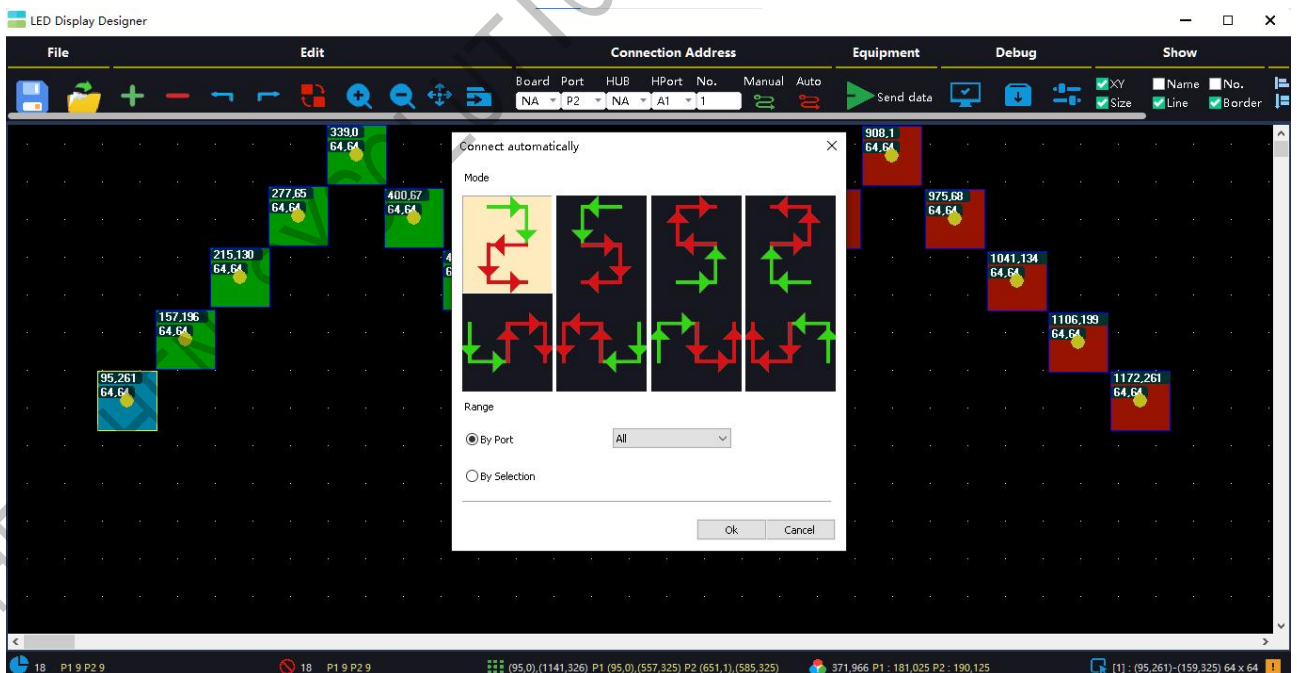

Figure 4-3-9 Automatic connection setting of network cable
(1) Automatic setting. Click the 'Auto' button to enter the interface of network cable automatic connection. When the box arrangement is more regular (rectangular arrangement), you can choose the automatic connection setting, as shown in Figure 4-3-9.